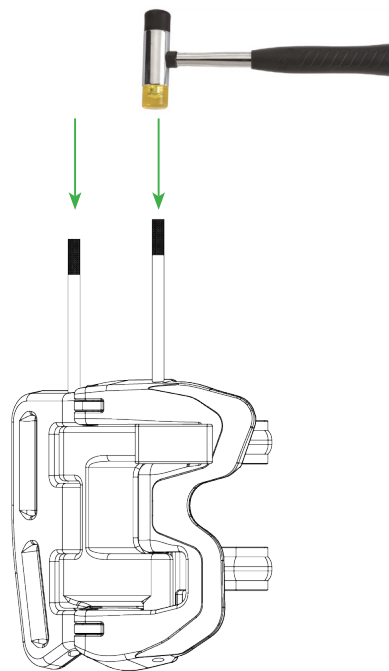

FIG.3:
STEP2: USE A SOFT-FACED HAMMER TO PUSH THE PINS ALL THE WAY INTO THE PART (FIG.3).